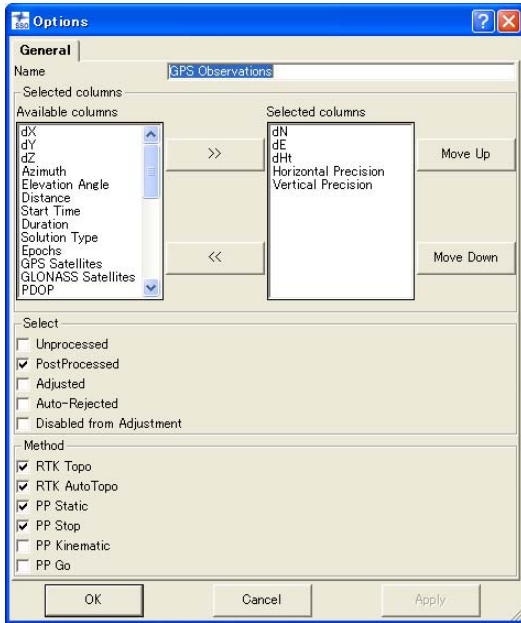

Figure 7-22. Item Options – GPS Obs Report
- GPS Obs Report – edit the name, select parameters to include or exclude using the move right/move left buttons, order the display of parameters using the Move Up/Move Down buttons, select the type of points to apply the parameters to, select the method used for points to apply parameters to, and click **OK** (Figure 7-22 on page 7-16).